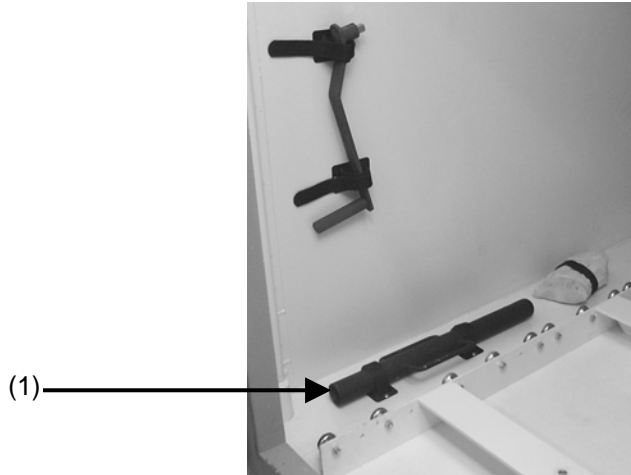

Figure 2-16. Mechanical room
- b. Using slide hammer (1) (located in mechanical room beneath jack handle) (Fig. 2-16), drive first segment into ground near container ground stud assembly.